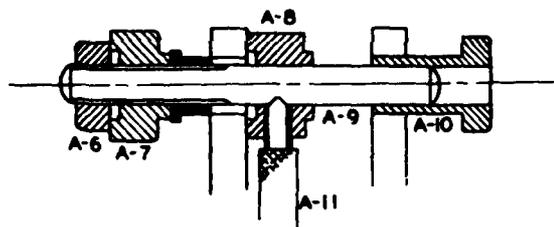

Fig. 19
(5) To insert new bearings use the tool assembly shown in Fig. 19. Part A-11 is inserted into part A-8 and tightened so that its point goes into the conical spot in A-9. Make certain that the oil hole and the set screw hole in the bearing are lined up for their corresponding holes in the casting so that when the bearing is finally in place the holes in the bearing will coincide with those in the casting. Force the new bearing into place by tightening nut A-6. Insert the bearing holding screws.
(6) Insert the shaft in the new bearings and see if the shaft turns easily. If it binds then the bearings should be line reamed using the AR-9 reamer. It will be necessary to loosen the two screws which hold the two castings together and to move the castings far enough apart so that the reamer is not blocked by the tell tale casting. Take care not to lose any shims that may be between the two castings. After reaming make certain that all metal particles are cleaned out and that none have lodged in the oil holes. Final tightening of the two screws holding the castings together should be left till later, paragraph (12).